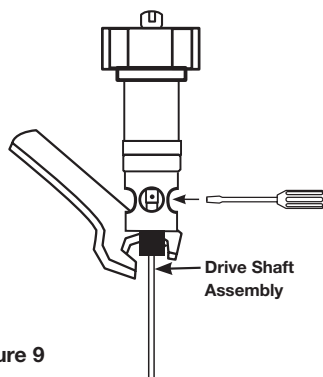

Figure 9
11. Insert a small screwdriver (or similar object) through the small hole on the shaft located inside the mechanical seal inspection port (see Figure 9).
12. While holding the small shaft still, loosen (counterclockwise) the pump drive shaft with large wrench. (see Figure 9).
- Thread drive shaft onto bearing housing shaft (see Figure 9).